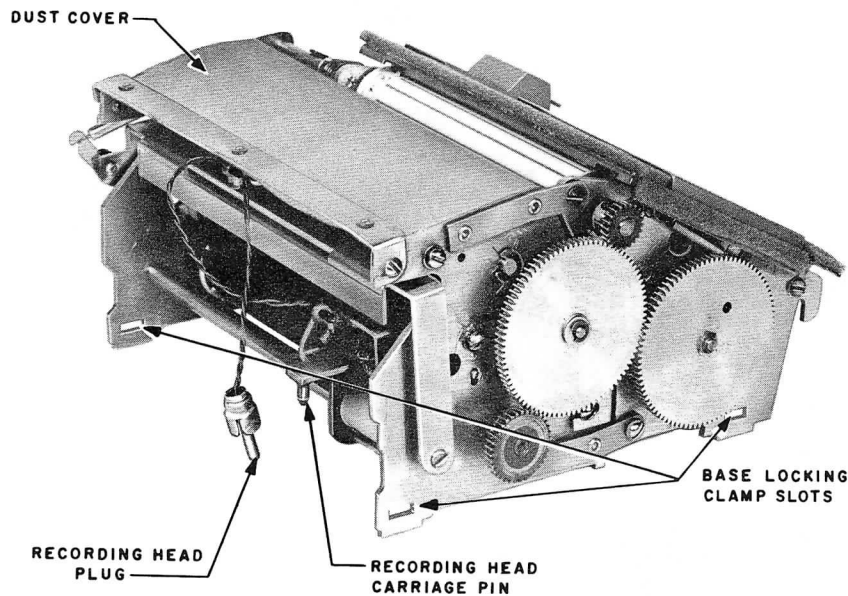
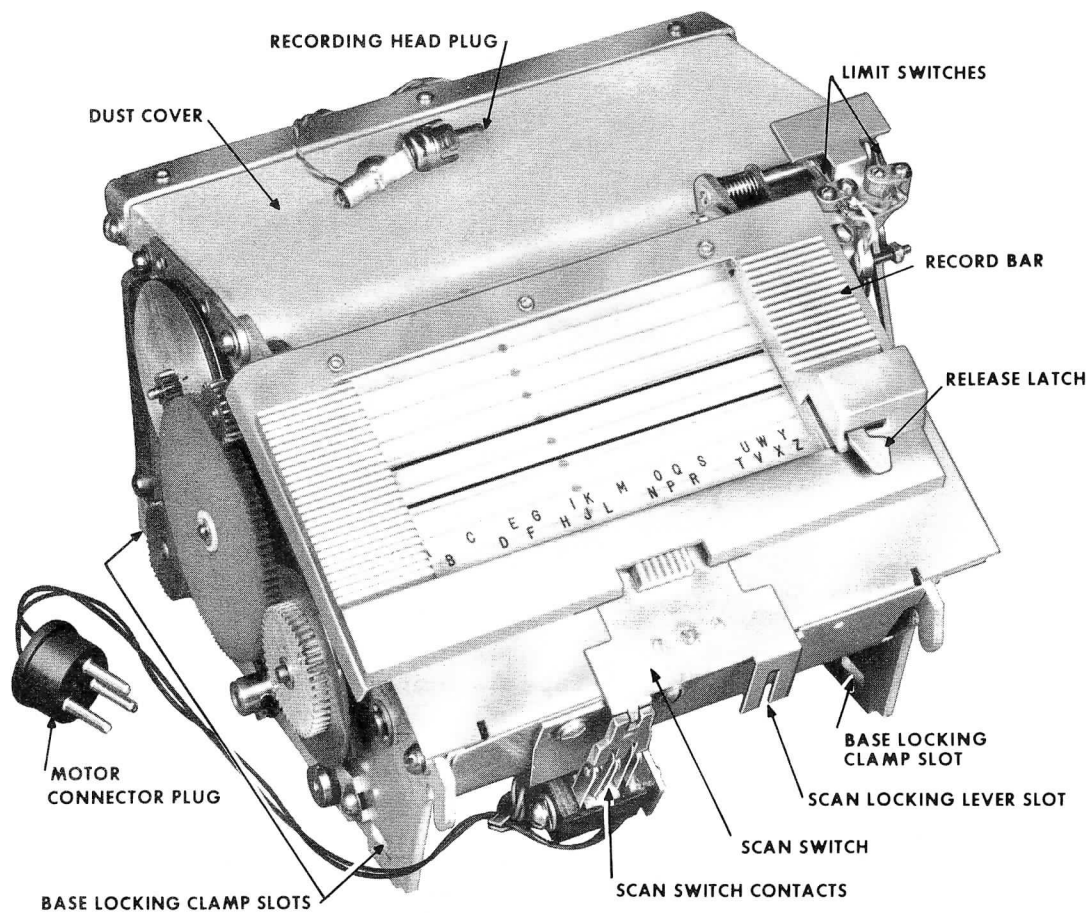

Fig. 10 - List 6 Tape Assembly Rear View
Fig. 11 - List 12 Tape Assembly
- (1) Disconnect recording head plug from jack (Fig. 10). On List 12 cartridges disengage scan motor power lead plug from jack (Fig. 11).